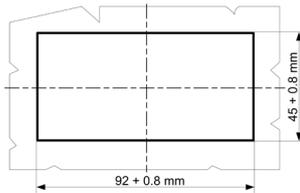

Figure 1-2 RMU Panel Cut-Out
1. Create a slot of dimensions as shown in Figure 1-2 to house the SICAM FPI in the Ring Main Unit (RMU).